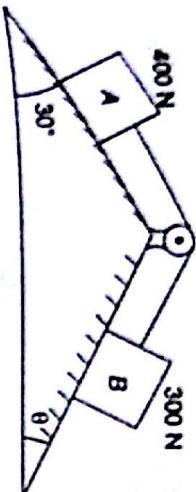

Fig. 3.57
- 3.4** A rope connects two masses *A* and *B* which rest on two inclined planes as shown in the Fig. 3.57. Planes